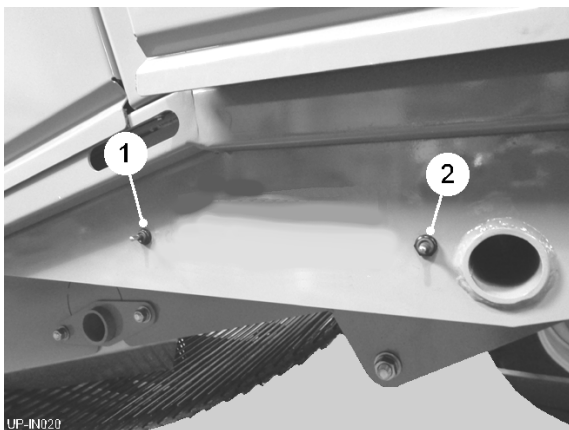

Fig 14
The LH side of the cross conveyor is folded vertically to reduce the width for transport. Raising / lowering of the conveyor is controlled by the two external switches (item 1 & 2, fig 14) on the LH side of the machine.